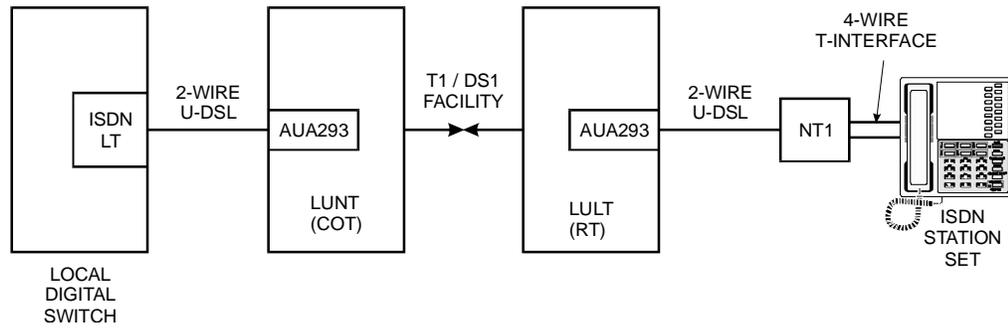

Figure 1. AUA293 Channel Units in a Typical BRITE Circuit
- Figure 1 shows the AUA293 CUs in a typical BRITE circuit.
Figure 1 shows the carrier-side and loop-side interfaces of the AUA293 CU in a typical BRITE circuit.